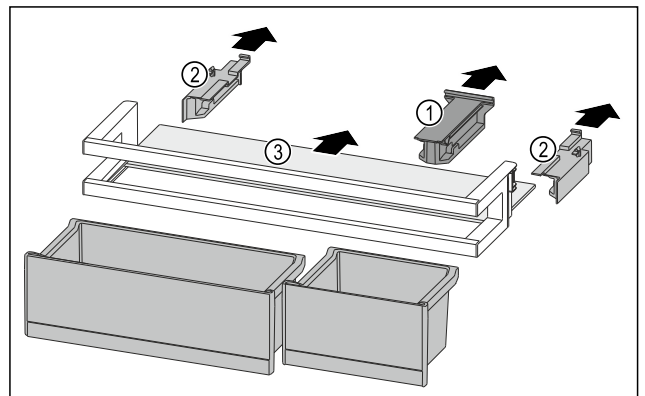

Fig. 186
- ▶ Pull off the holding part Fig. 186 (1).
- ▶ Pull off the side parts Fig. 186 (2).
- ▶ Remove the shelf Fig. 186 (3).